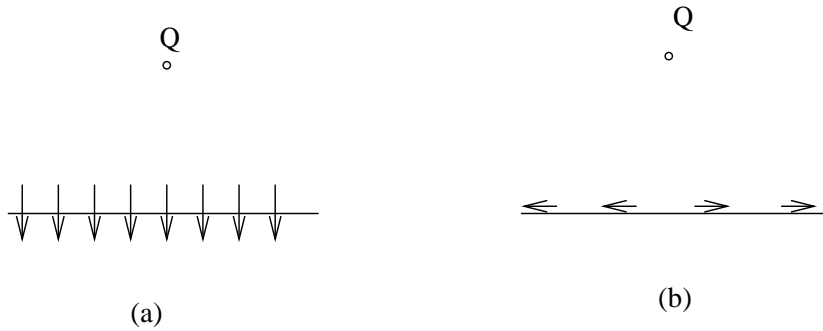

Figure 13:
- (a) If the wall is perfectly conducting, so that the flux lines at the wall are perpendicular to the wall as shown in figure 13, determine the temperature as a function of position.
- (b) If the wall is perfectly insulating, so that the flux lines at the wall are parallel to the wall as shown in figure 13, determine the temperature as a function of position.